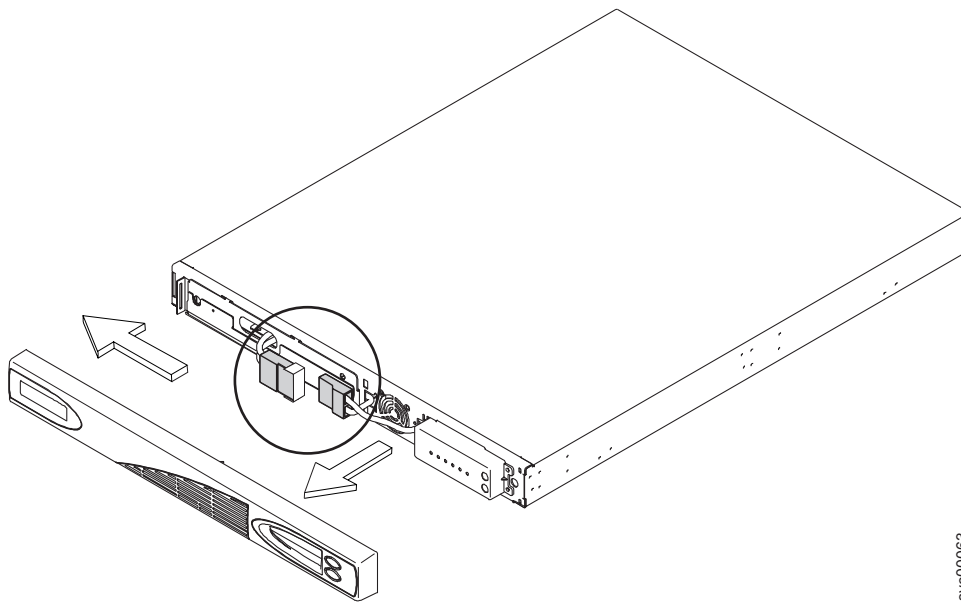

Figure 316. Removing the 2145 UPS-1U front panel
5. Remove the 2145 UPS-1U front panel by pulling it towards you and to the left, as shown in Figure 316.